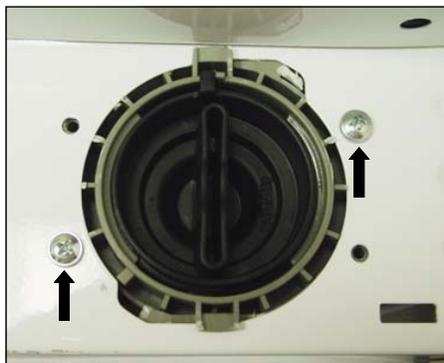

Fig. 5-3
- The Drain Motor is held in place with two (2) Phillips screws and a twist lock fitting (Fig. 5-3). Remove the two (2) Phillips screws, but leave the drain motor in place until you remove the Bottom Pan in Fig. 5-5.